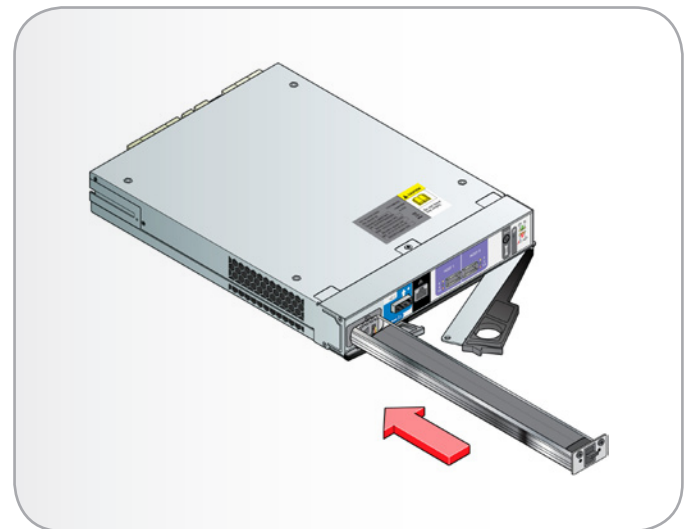

Fig. 84 - Installing the Battery Module
2. Slide the battery module into the slot on the right hand side of the controller module. The battery module is fully secured when it reaches its fully seated position and the latch resets (Fig. 84).